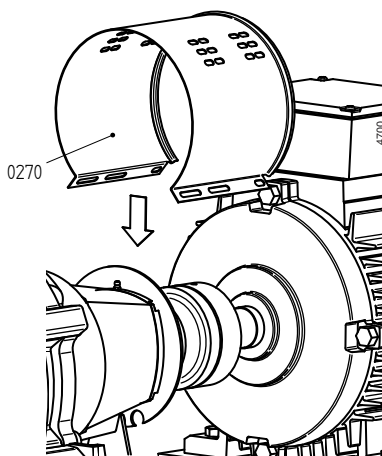

Figure 7: Fitting the jacket at motor side.
- 2 Remove both jackets (0270). See figure 7.